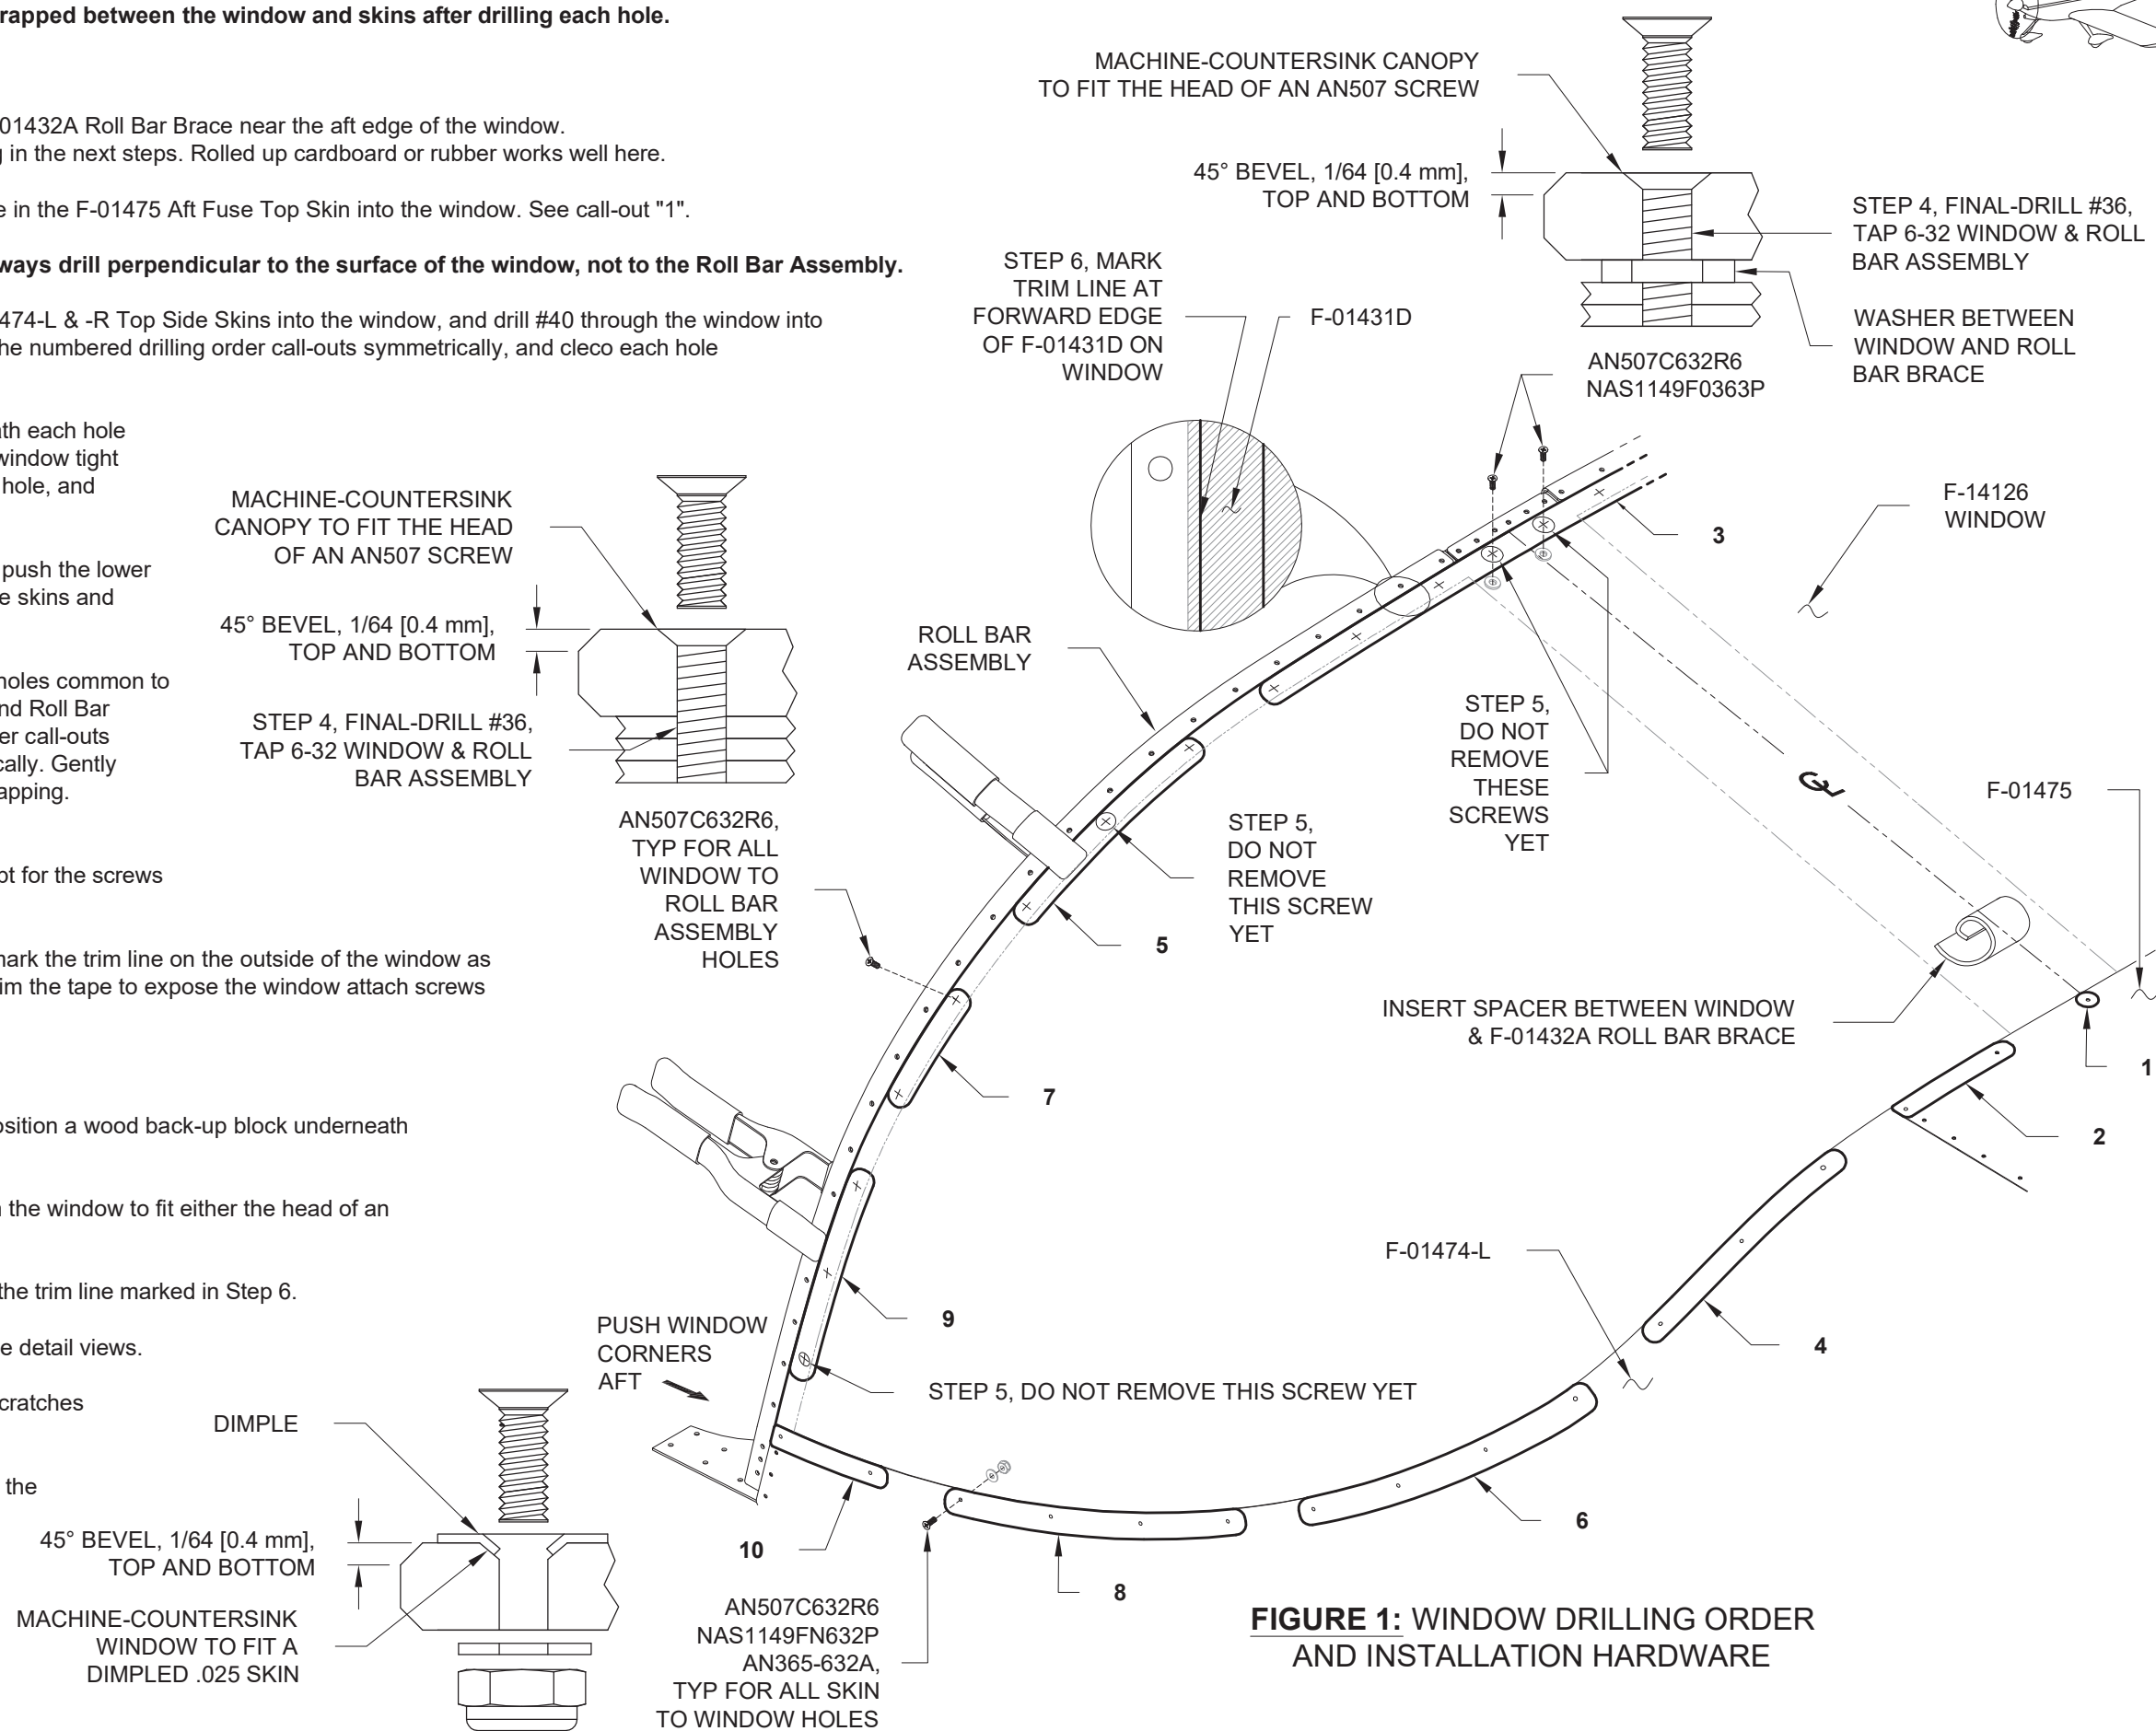

FIGURE 1: WINDOW DRILLING ORDER AND INSTALLATION HARDWARE
Step 1: Dimple the holes in the F-01474A-L & -R Stiffener Angles as shown in Figure 1.
Step 2: Separate the F-01474A-L & -R Stiffener Angles as shown in Figure 1.